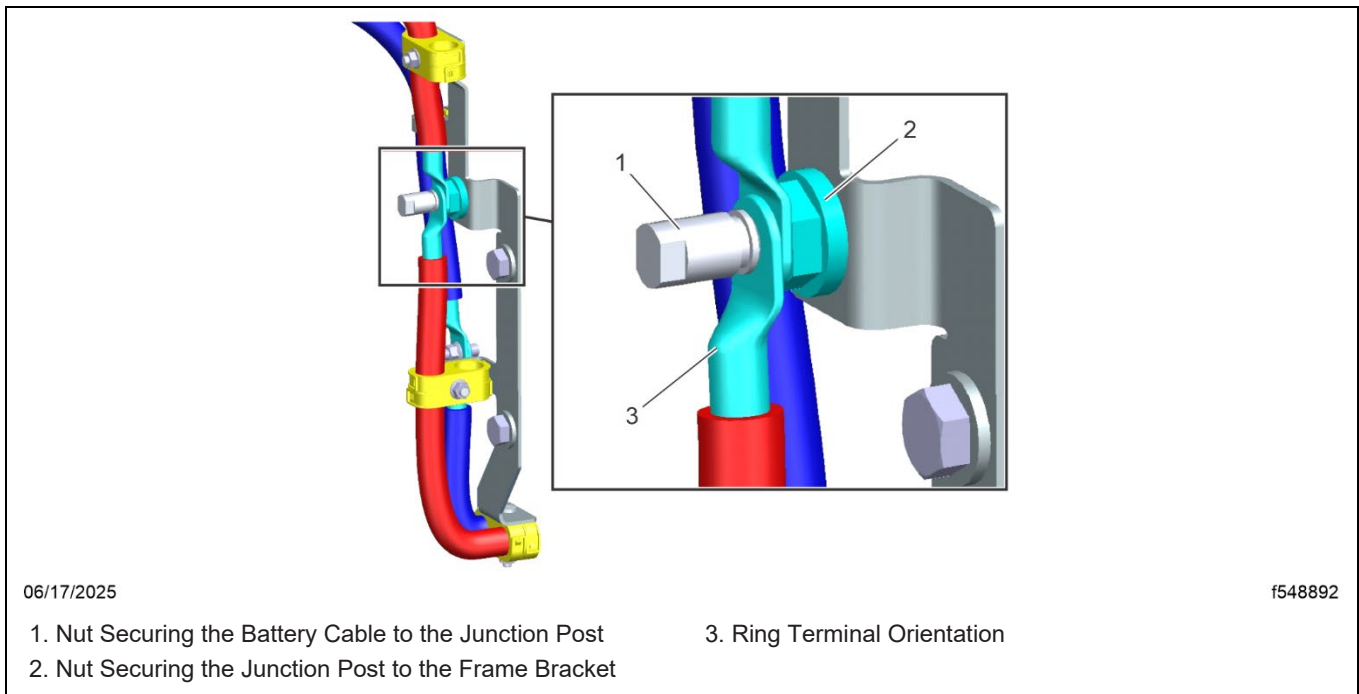

Fig. 1, Battery Cable Junction Post Connection (example)
- 7.1. Remove the nut that secures the battery cables to the junction post. See **Fig. 1**.
8. Inspect the cable ends for corrosion and evidence of chafing. See **Fig. 1**.
10. Remove the plastic nut that secures the junction post to the frame bracket. See **Fig. 1**.
12. Tighten the plastic junction post nut 71 lbf·in (8 N·m). See Fig. 1.
13. Assemble the cables on the post with the body of the ring terminals turned to give the most clearance to the mounting bracket. See Fig. 1.